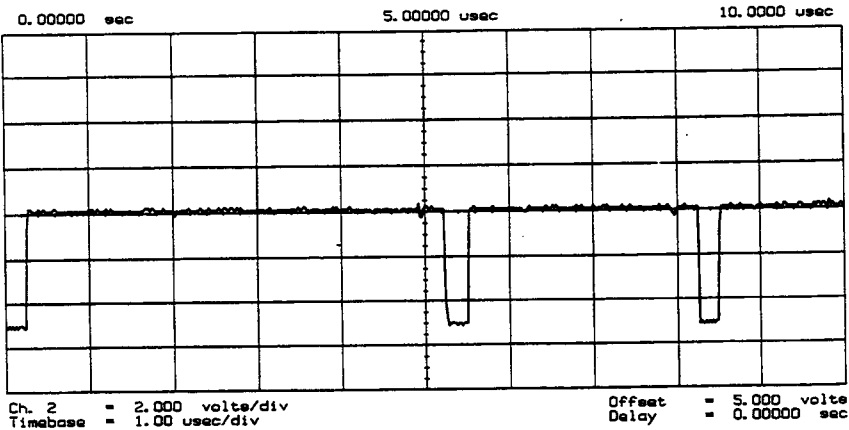

Figure 15. L ENREF Line at A12P2-16 (Preset)
**L ENREF Line.** This is a TTL signal. To observe it, trigger on the negative edge. In preset state, the signal should show activity similar to Figure 15.